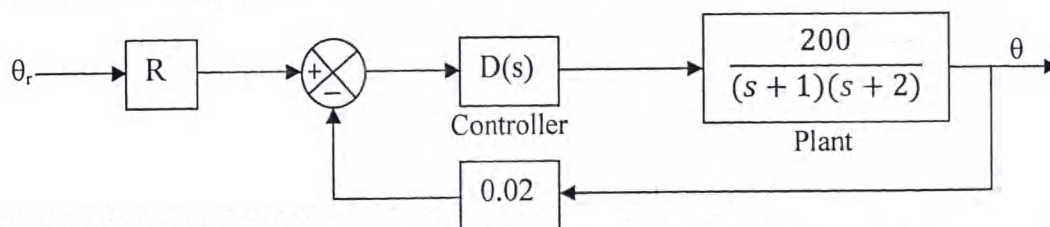

Fig. 4
4. (a) The block diagram of a temperature control system is presented in Fig. 4. The input signal is a voltage and represents the desired temperature θ_r which is a unit step function. Determine the steady state error of the system with $R = 0.02$ and (i) $D(s) = 1$; (ii) $D(s) = \frac{0.1}{s}$; (iii) $D(s) = 1 + 0.3s$. Comment on the behavior of the systems with the three different types of controllers. [3]
(b) For the system in Fig. 4 consider $R = 1$ and controller $D(s) = \frac{1}{s}$, the transfer function of the plant $P(s) = \frac{K}{(s+1)(s+2)}$ and feedback element transfer function = 1. Sketch the root loci of the system and determine the range of K for stability. [5]